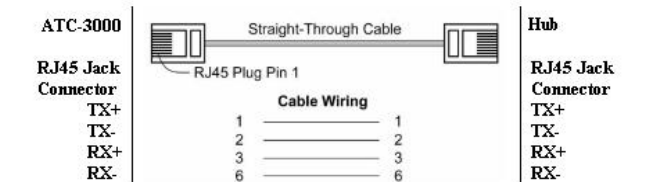

Figure 1
■ Connect an Ethernet cable to ATC-3000 unit if connecting to a switch or cross-over direct to the PC as figure1